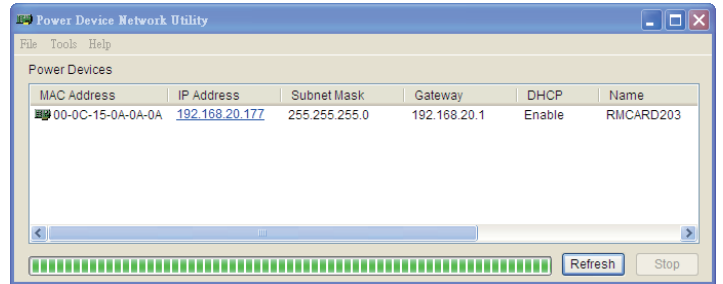

Figure 1. The main window of the "Power Device Network Utility" program.
3. The main dialog of the Power Device Network Utility Tool program is shown in Figure. 1. The tool will display all Remote Management Cards present on the network. The "Refresh" button is used to search the entire local network again.